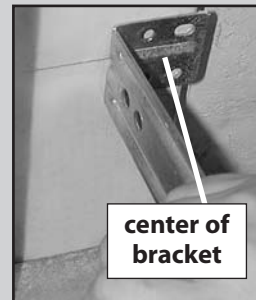

FIG. 3-2 Mount brackets.
- Center bracket on your mark (Fig. 3-2).